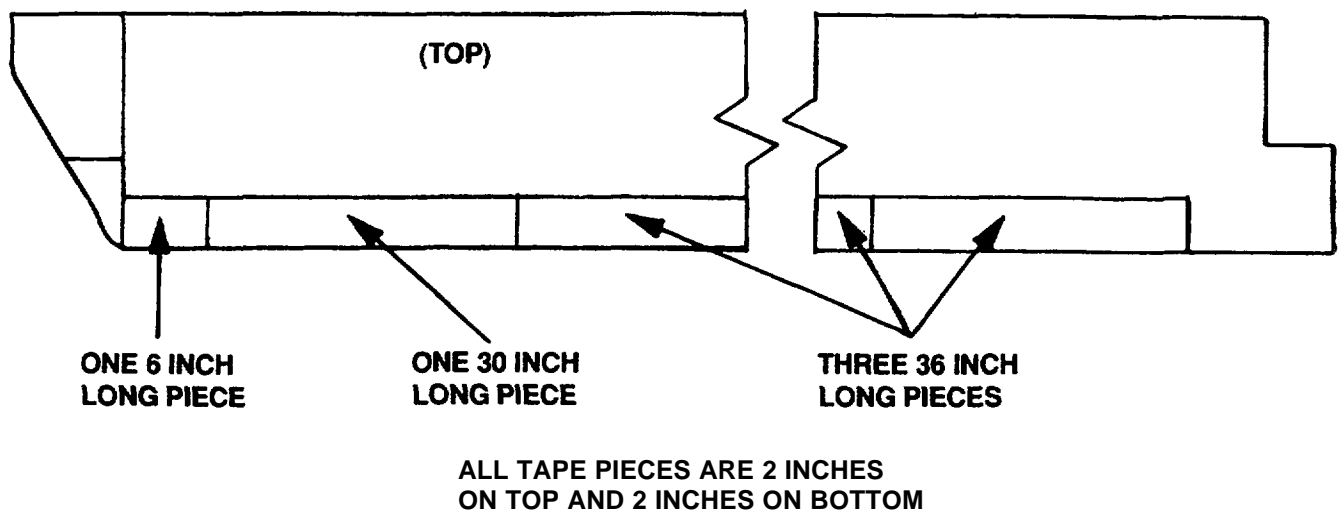

Figure 3-22. Tape Application, Main Rotor (OH-58A/C)
(9) Tape Application. When the tape is in proper position, press the exposed portion on the blade as close to the leading edge as possible. Press down on the tape, working toward the trailing edge to prevent trapping air bubbles. See figure 3-1, sheet 4. Peel backing strip back while keeping tape aligned and pressing down toward the trailing edge. Remove the backing strips one at a time, working toward the trailing edge. See figure 3-1, sheet 5. Thoroughly press down tape. Apply the remaining pieces of tape shown in figure 3-22 in the same manner. Any bubbles encountered during the application process may be removed by continuous squeegee stroking towards the edge of tape or by puncturing the bubbles with a needle and applying pressure to the wet adhesive.